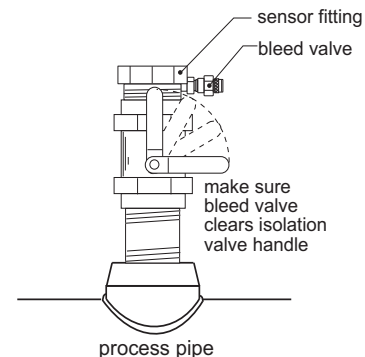

Fig. 3
- Open the isolation valve and insert the drill through the valve and cut the sensor clearance hole. After the hole is cut, withdraw the drill from the isolation valve and close the valve. Remove the drilling machine per manufacturer's instructions. (Fig. 3)